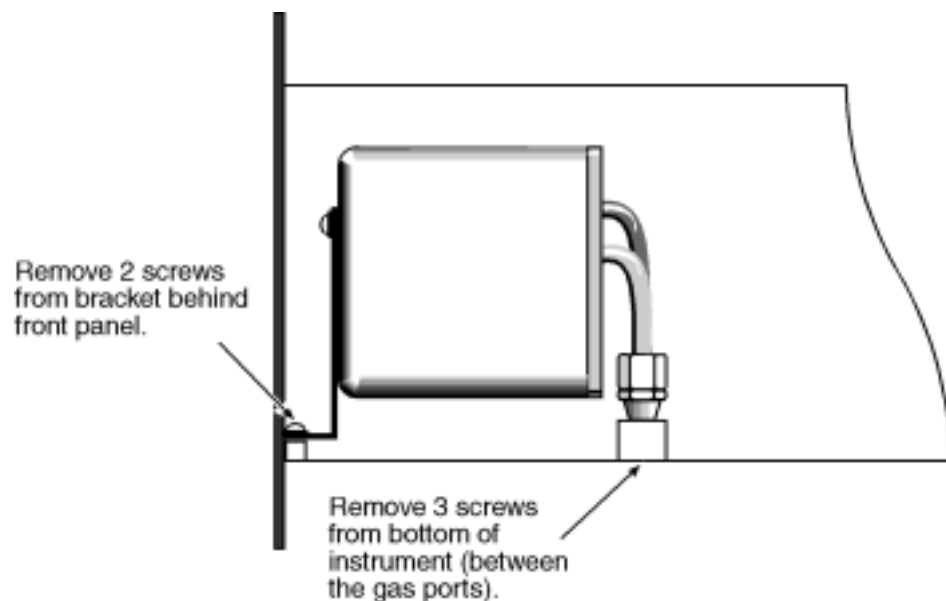

Figure 5-5: Location of Cell Compartment Retaining Screws
The Thermal Conductivity Cell, with its Heater and Thermistor, is mounted inside the insulated cell compartment, just behind the analyzer's front panel access door. To remove the one of these components, you must first slide the entire Cell Compartment out of the analyzer through the front panel access door as described in the procedure below. Figure 5-5 identifies the five screws that must be removed in order to remove the Cell Compartment.
- c. Remove the Cell Compartment retaining screws identified in Figure 5-5. You will have to unlatch and swing open the front panel door to remove the front screws.